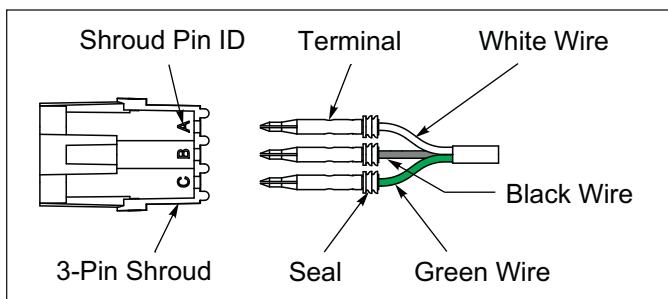
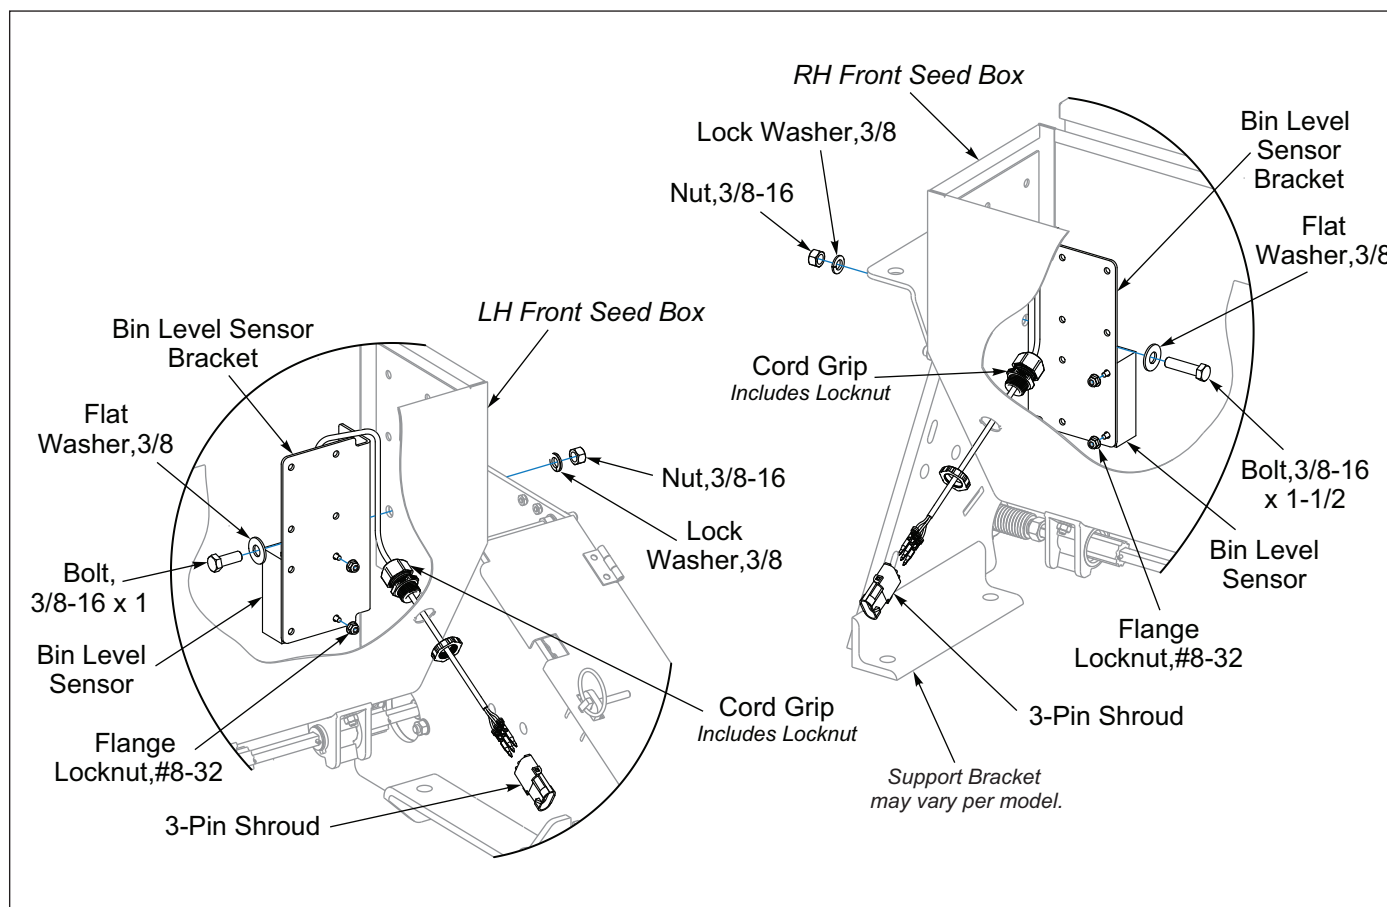

Figure 2-32: Bin Level Sensor Wire Detail
Figure 2-38: Brillion Elite Mini Monitor - Bin Level Sensor Bracket
6. On the inside at either end of the Seed Box, install a Bin Level Sensor Bracket with the Seed Box Mounting 3/8-16 Hardware. **See Figure 2-38.** Determine the desired level for the alarm to be indicated on the Brillion Elite Mini Monitor and assemble the Bin Level Sensors to Bin Level Sensor Brackets with sensor provided hardware and #8-32 Flange Locknuts. If more adjustment is needed, the Bin Level Sensor Brackets can also be raised or lowered to the desired seed level. Install Cord Grips from the inside of the Seed Box out and secure with supplied Locknut on the outside of the Seed Box. To get the Sensor Connector outside the Seed Box, feed the terminals through the Cord Grip. Install the terminals into the 3-Pin Shroud labeled "A", "B" and "C" as follows "A" White, "B" Black, "C" Green. **See Figure 2-32.** Inside the Seed Box, provide enough cord slack to the Bin Level Sensor Cord to allow for future adjustments of the Sensor. Secure the Bin Level Cord by tightening the Cord Grip Compression Nut. Connect both Bin Level Sensors to the Seeder Harness.